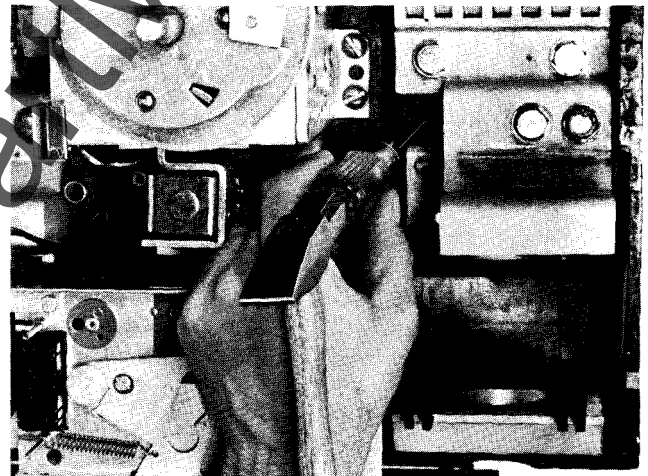

Fig. 16.
2. Remove appropriate knockout(s) in the breaker base using screwdriver and hammer as shown in Fig. 16. Remove all debris from the breaker.